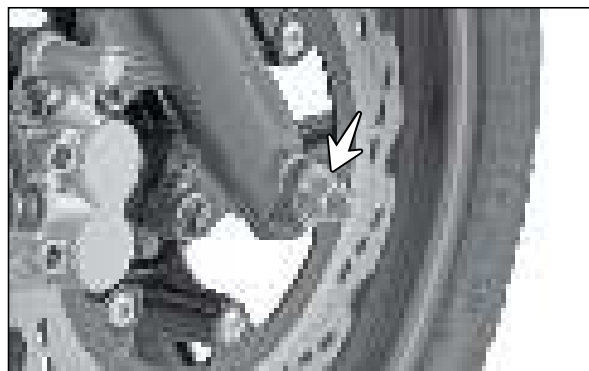

Fig. 6.1
- Remove the front wheel axle nut along with punched washer. (Fig. 6.1)